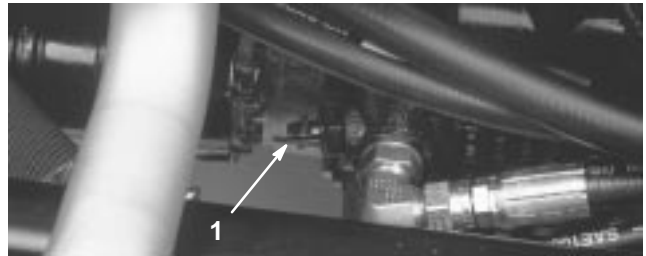

Figure 26
1. Locate the bypass valve on the pump (Fig. 26) and rotate it 90°.